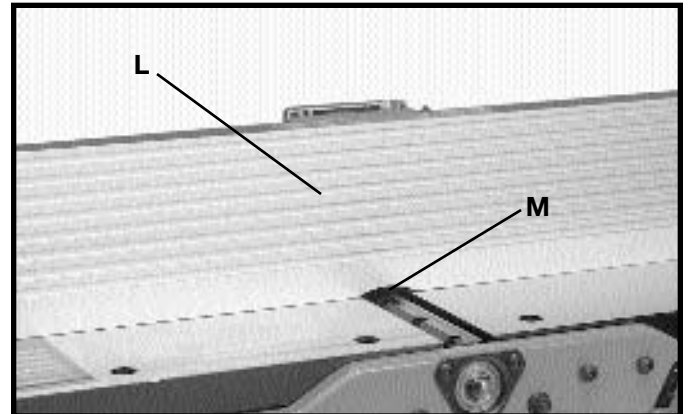

Fig. 11
5. Position fence (L) Fig. 11, so that rounded section (M) on bottom of fence is over cutterhead opening as shown.